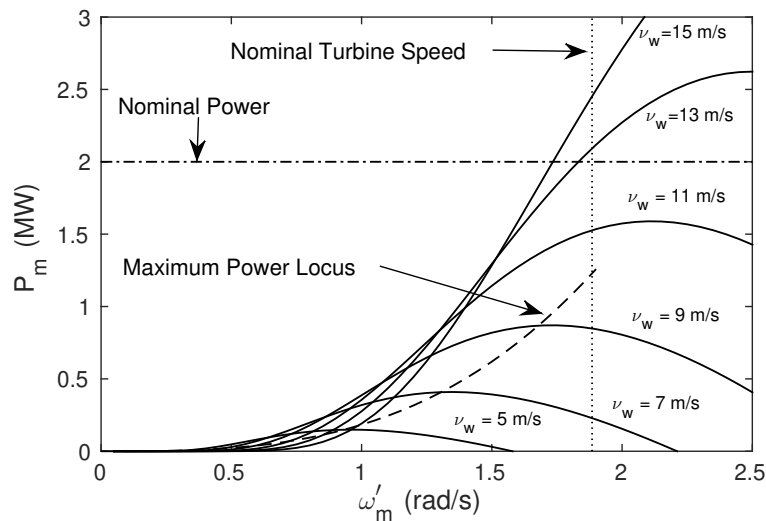

Figure 9: Wind turbine characteristics
16. A three-phase synchronous generator is used in the configuration shown in the figure below. The wind turbine characteristic is shown in Fig. 9. The field voltage of the generator is controlled so that the dc link voltage V_{dc} is regulated at 3.75 kV. The VSC is controlled so that it extracts maximum power from the wind. The reactive power output at the terminal of the VSC is maintained at zero. Compute m and α for the VSC.
The speed-torque characteristics of the wind turbine is given in Fig. 9.